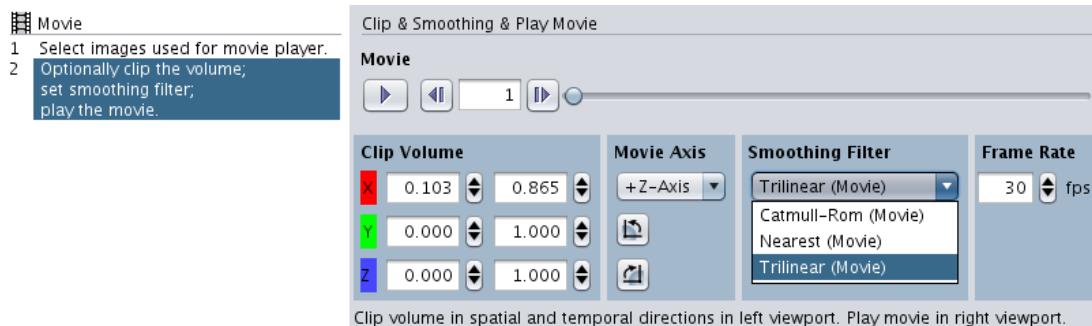

Figure 1.128: Clip, Smooth and Play a Movie
1. To clip the display range, in the Clip Volume panel adjust the range along the three axes (see [Figure 1.128 \[p. 150\]](#)).
In the Movie panel (see [Figure 1.128 \[150\]](#), right), the movie frame number can be entered to navigate to a certain position in the movie. However, note that the movie frame number is not necessarily equal to the linear frame number of acquired images included in the movie, because the total number of movie frames also depends on the frame rate.